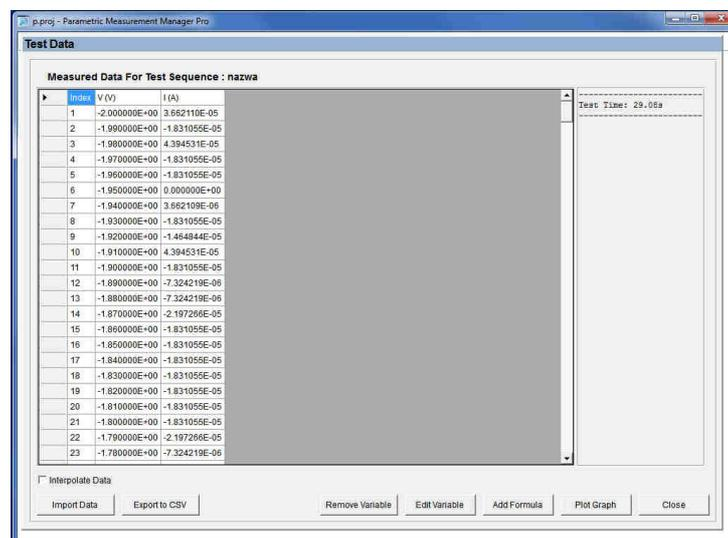

Fig.15. "Test data" window
6) After the test is ended, the window shown in Fig.15 is displayed. To plot the characteristic and verify the data choose an option "plot graph", next "2 inputs" and "proceed". To export the data to the file, you must choose an option "export to csv". The file is saved in the chosen directory.